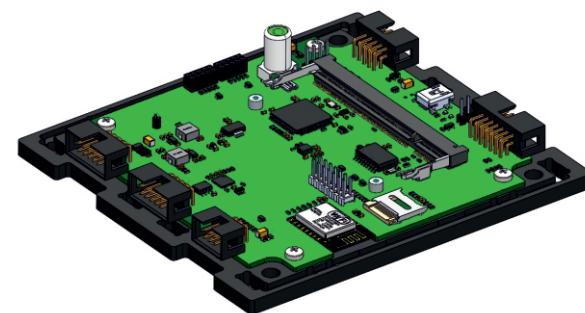

Fig. 18: Mounting the circuit board
- 2) Secure the board to the bottom base plate using M3x6 cylindrical-head screws (Fig. 18)